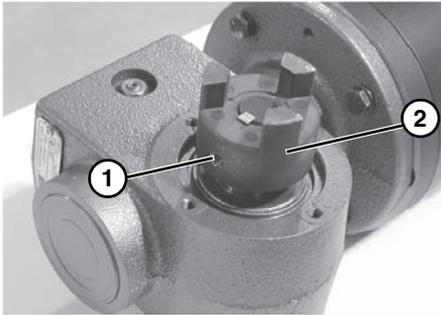

Figure 12
- Loosen set screw (**Figure 12, item 1**) and remove 3 jaw coupling (**Figure 12, item 2**).